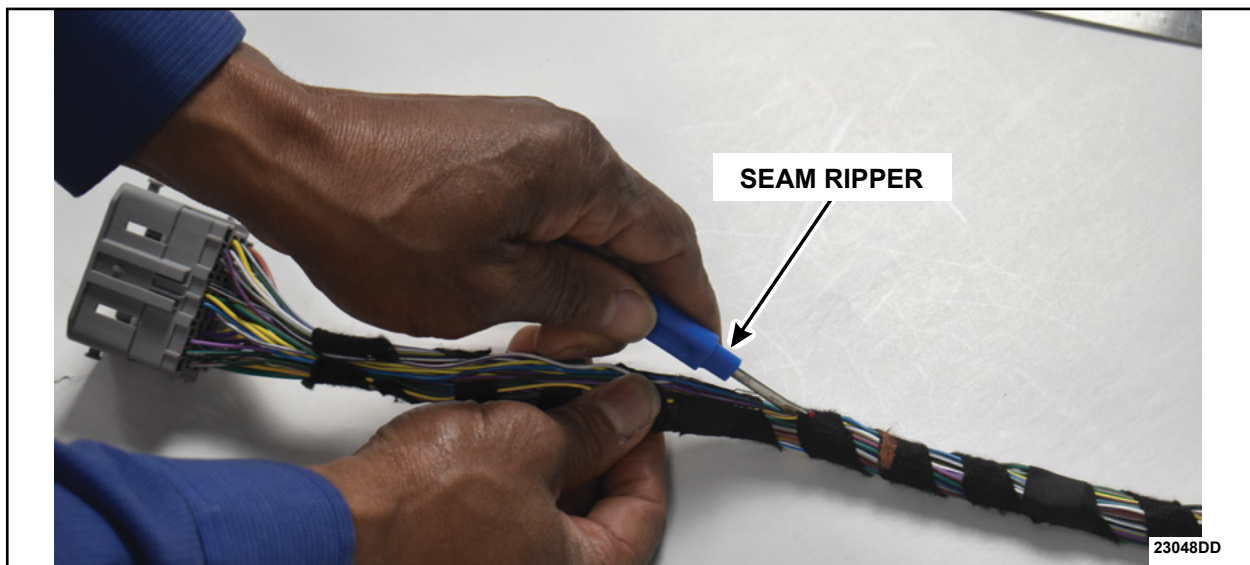

FIGURE 5
5. Using a seam ripper or similar tool, cut the harness tape up to the location mark made in the previous Step. See Figure 5.